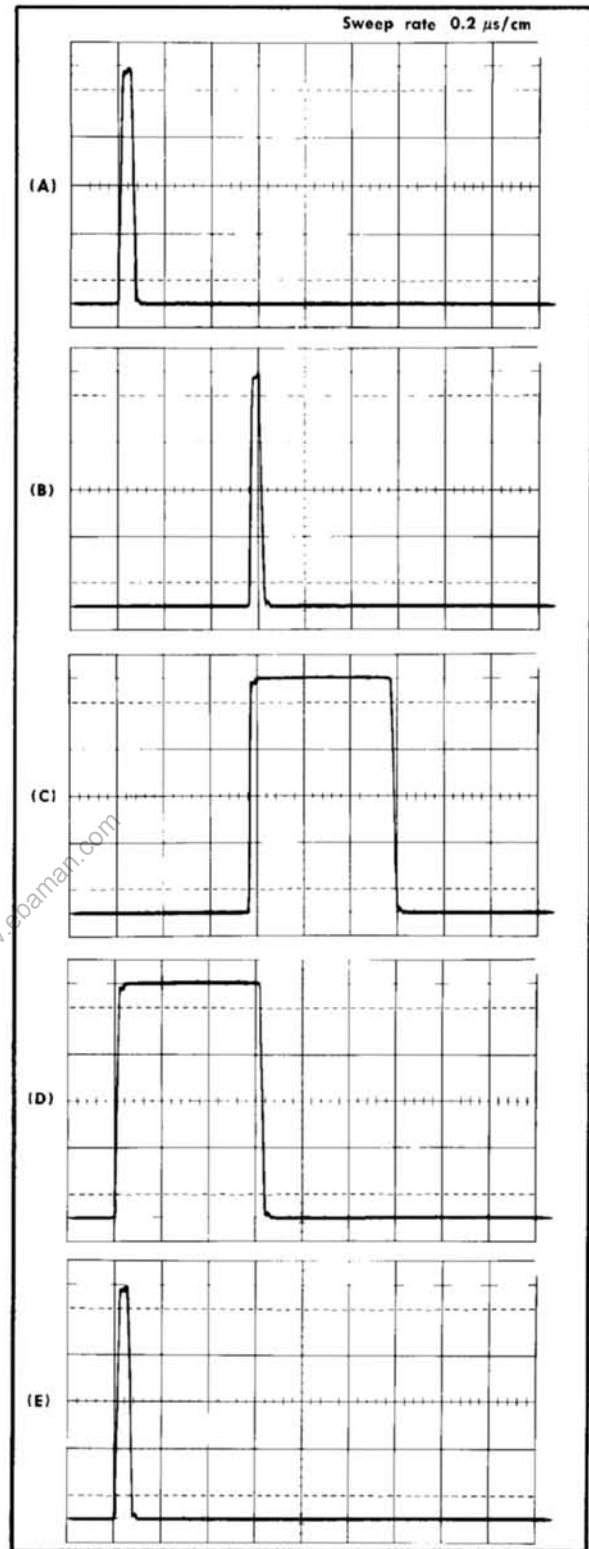

Fig. 5-6. Typical test oscilloscope displays obtained during check of width and delay trigger sensitivity adjustments (step 6e).
- Observe the test oscilloscope display (see Fig. 5-6) while performing the following four operations:
- Turn the DELAY OR BURST DURATION VARIABLE control slowly clockwise to the fully clockwise position (B).
- Turn the WIDTH VARIABLE control slowly clockwise to the fully clockwise position (C).
- Turn the DELAY OR BURST DURATION VARIABLE control slowly counterclockwise back to the CAL position (D).
- Turn the WIDTH VARIABLE control slowly counterclockwise back to the CAL position (E).